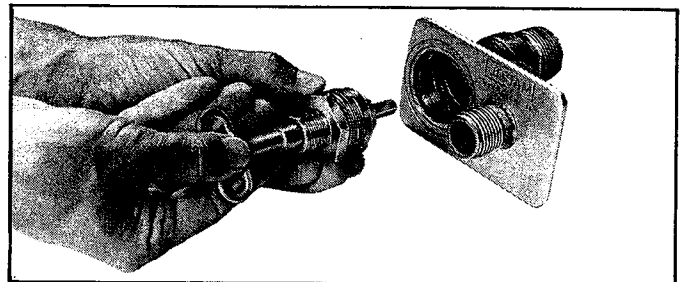

FIGURE 4
B. Use pliers. Firmly grip Cap Retainer (8) and turn counterclockwise to remove it, then remove Deflector Cap (7). Shut off hydrant as tight as possible with Control Key (1) and use an adjustable open end wrench or channel-lock type pliers to "break" Draw Nut (11) loose, then remove it with Control Key (1), turning counterclockwise until threads are free from Hydrant Head (12). Grasp Draw Nut (11) firmly and pull toward you to remove Actuator (2) and Actuator Rod (3). See Figure 4.